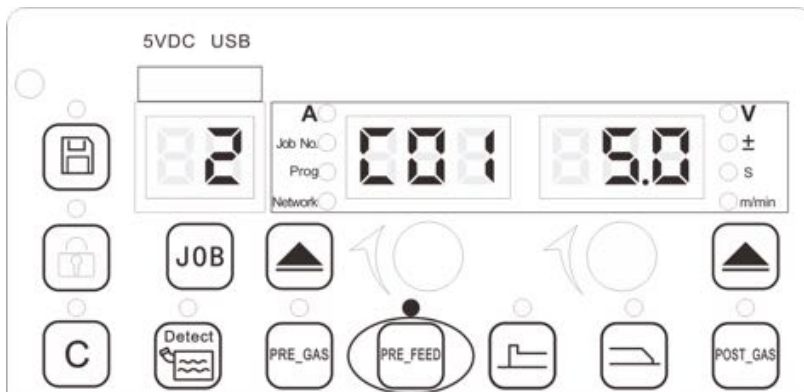

Figure 3-20 Parameters setting view of Pre-feeding
1. Press the “Pre-feed” button to activate the pre-gas function and wait for the indicator turns on, the view for Pre-feed is shown in Figure 3-20.